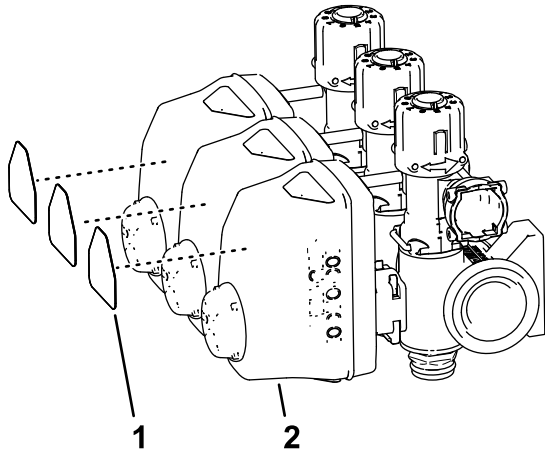

Figure 68
5. Remove the decals from the actuators of the 3 section valves (Figure 68).